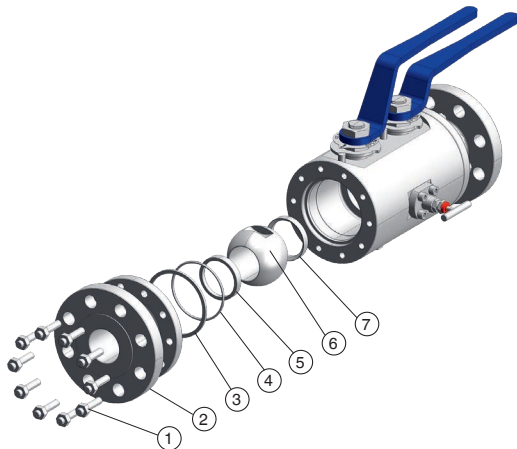

Fig. 1 - Replacement of sealing rings and ball seats
1. Insert the ball seat (fig. 1, 7) in the valve body seat area.
7. Insert the ball (fig. 1, 6) in the closed position so that it remains in the correct position under the stem without falling inside.
8. Place the sealing ring (fig. 1, 3) on the closing connection (fig. 1, 2).
9. Place the O-ring (fig. 1, 4) on the closing connection (fig. 1, 2).
11. Insert the ball seat (fig. 1, 5) in the groove of the closing connection (fig. 1, 2).
12. Keep the ball (fig. 1, 7) in the closed position and place the closing connection (fig. 1, 2) on the valve body.
13. Tighten the threaded bolts and nuts (fig. 1, 1).